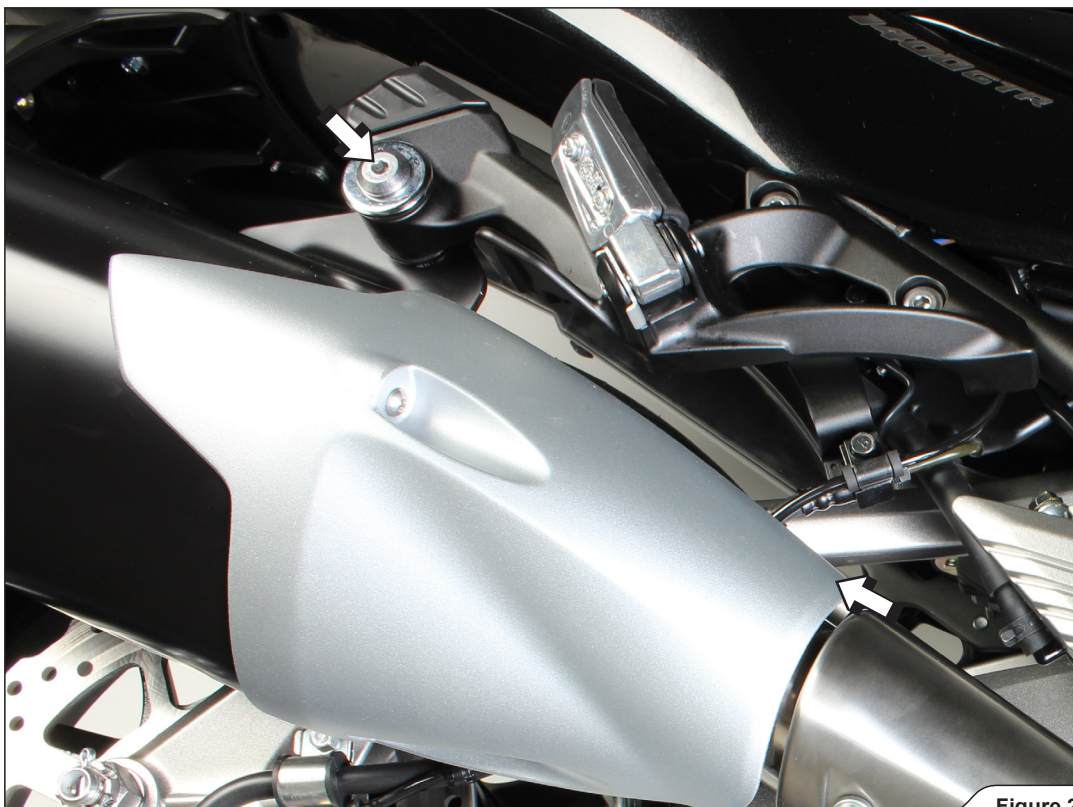

Figure 2
3. Unscrew the marked muffler bracket bolt and carefully remove the muffler of the motorcycle (**Figure 2**).